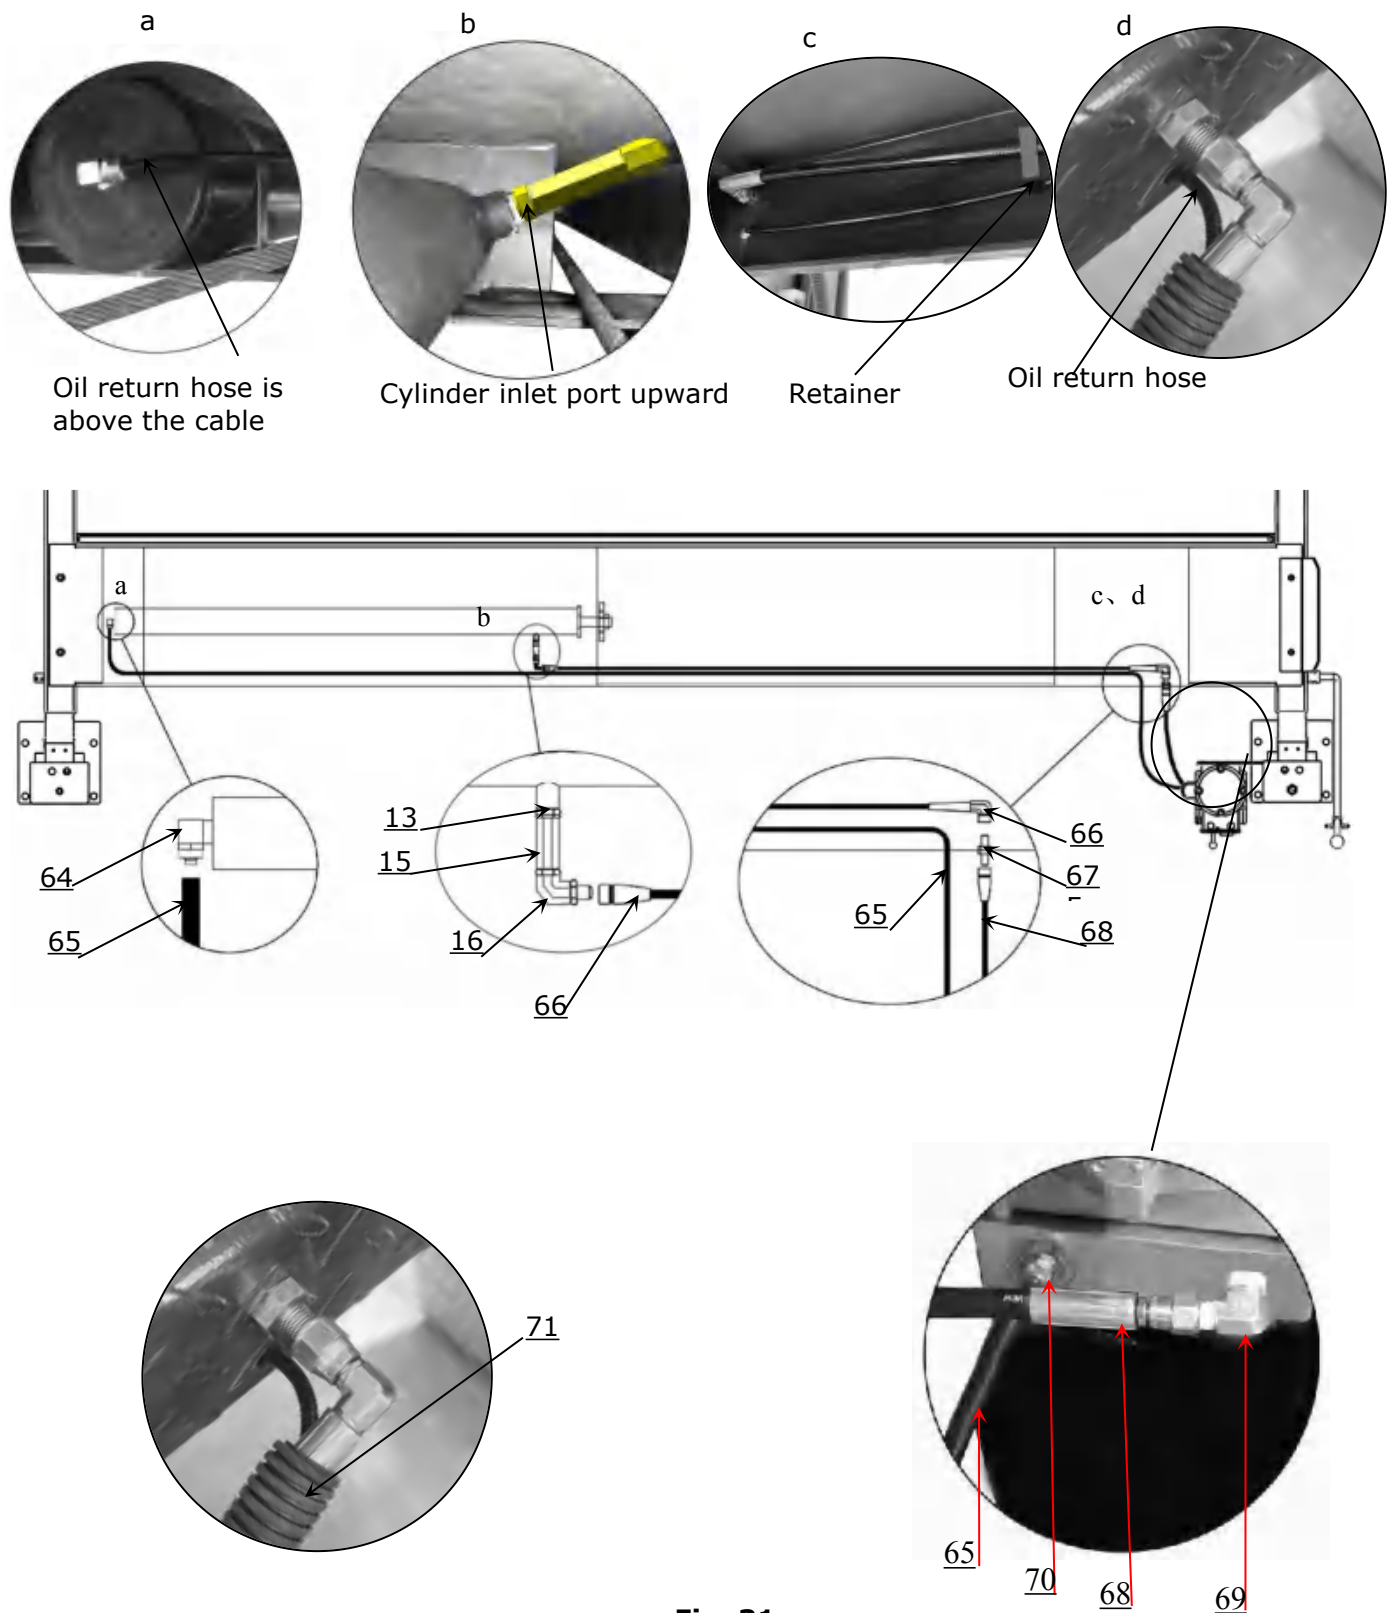

Fig. 31
1. For power unit installed to the column that connected to cross beam A (**See Fig. 31**)